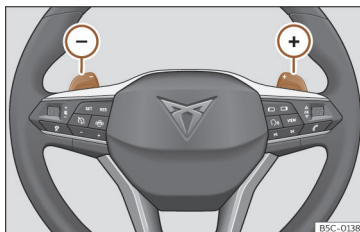

Fig. 148 Steering wheel: automatic transmission levers
- Press the gearshift paddle (+) to select a higher gear»» Fig. 148.